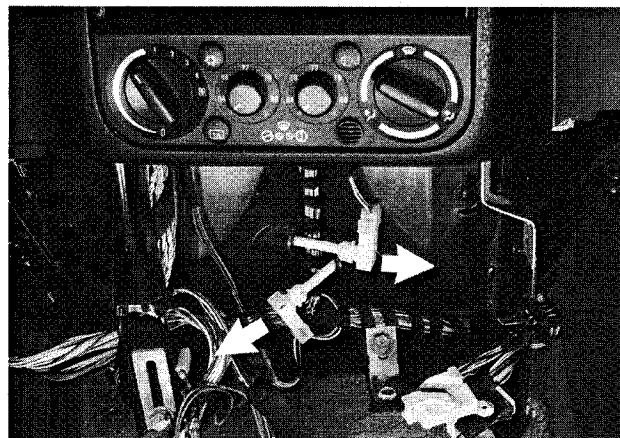

Fig. 21. Remove heater core temperature sensors in direction shown (arrow).
3. Pull temperature sensors from heater box and disconnect harness connectors. See Fig. 21.